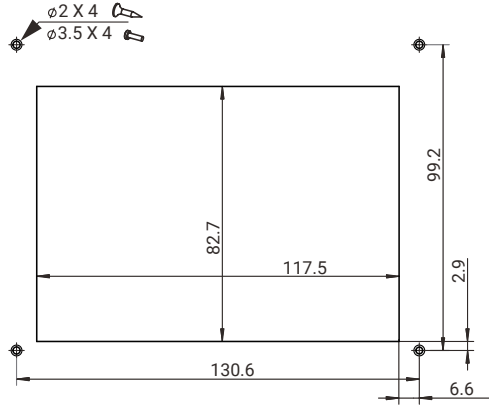

Figure 3-1
1. Drill holes on the hull through the fixing guide referring to the figure 3-1.